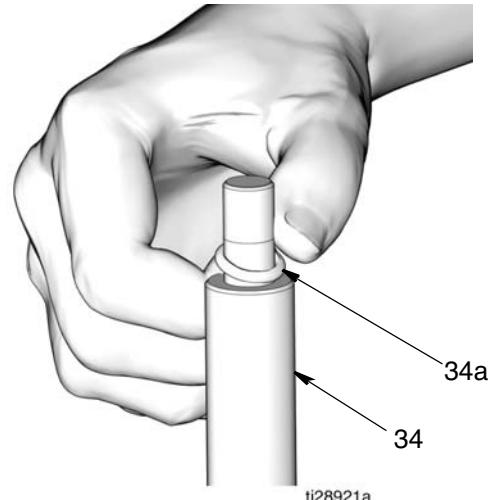

FIG. 29
5. Apply a thin layer of grease to o-ring (34a). Install o-ring over the grooves of piston rod (34) (FIG. 29).
**NOTE:** If needed, a pick can be used to help seat the o-ring over the grooves of the piston rod (13).